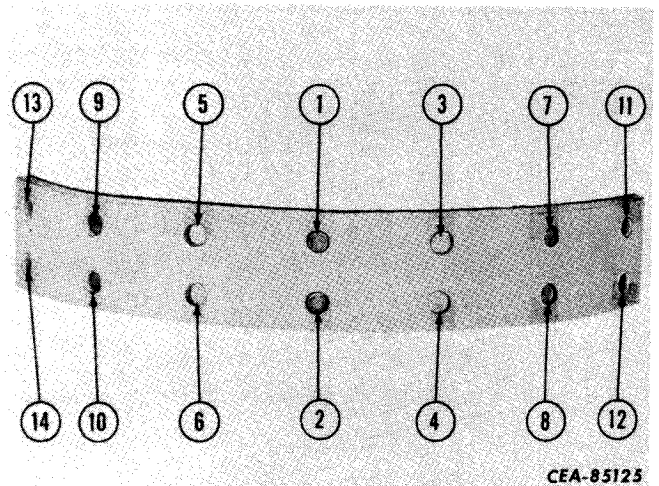

Figure 13-106
- c. Using a rivet press, install the rivets following the sequence shown in Fig. 13-106.